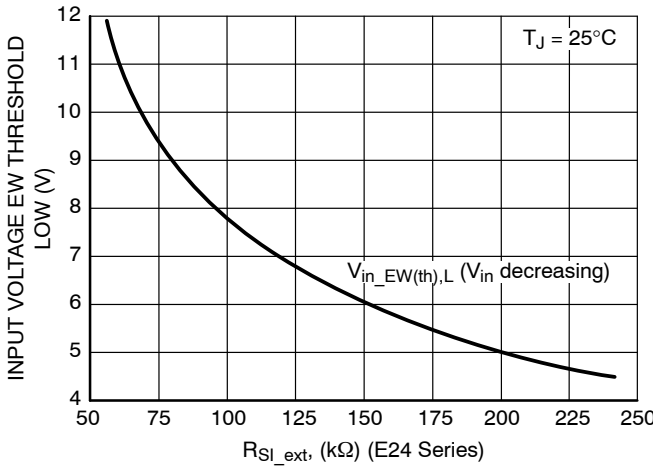
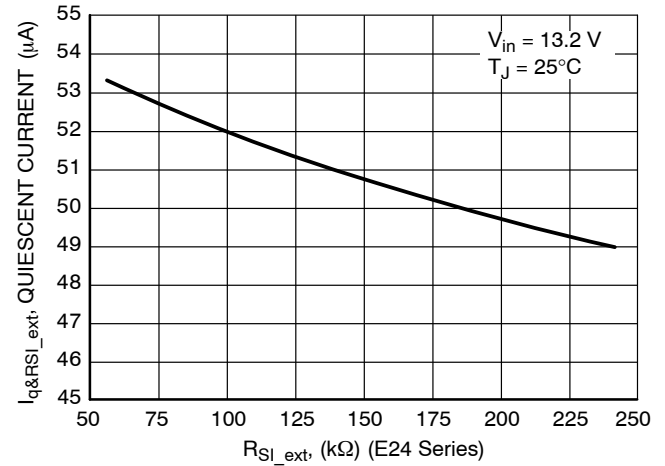

Figure 26. Input Voltage EW Threshold Low vs. R_{Sl_ext} (Calculated Using E24 Series)
Figure 27. Quiescent Current vs. R_{Sl_ext} (Including I_{RSI_ext} , Calculated Using E24 Series)
| Early Warning Input Voltage Threshold (Preset EW Threshold Values) NCV8667y2 High Low | $R_{SI1} = 480\text{ k}\Omega$, $R_{SI2} = 520\text{ k}\Omega$ (internal resistor divider values, see Figure 3) $R_{SI_ext} = 150\text{ k}\Omega$ ($\pm 1\%$, $\pm 100\text{ ppm}/^\circ\text{C}$) (external resistor value, see Figure 26) | $V_{in_EW(th)}$ | 5.67 5.30 | 6.30 5.89 | 6.92 6.47 | V |
13. I_q for Preset EW Threshold Options is measured when R_{SI_ext} is not used. For typical values of I_q vs R_{SI_ext} see Figure 27.
Practically only preset options above 4.5 V can be used without R_{SI_ext} due to minimum operating input voltage value limitation. For other preset options the trip point has to be adjusted externally using R_{SI_ext} resistor connected between input monitor SI and GND (see Figure 1). For other preset options R_{SI_ext} has to be used to achieve V_{in_EW(th)} > 5.5 V (minimum operating input voltage value). The value for R_{SI_ext} is recommended to be selected in range from 50 kΩ to 250 kΩ and the trip point can be shifted according to Figure 26. In case of R_{SI_ext} values higher than 200 kΩ two resistors in series could be used in order to eliminate leakage current of the resistor and hence ensure precision of its resistance value. The higher is R_{SI_ext} the lower is overall Quiescent Current of the application (see Figure 27). General formulas for calculation of V_{in_EW(th)Low} or R_{SI_ext}
The Sense Output is from an open drain driver with an internal 30 kΩ pull up resistor to V_{out} . Figure 26 shows the SO Monitor timing waveforms as a result of the circuit depicted in Figure 1. If the input voltage decreases the output voltage decreases as well. If the SI input low threshold voltage is crossed it causes the voltage on the SO output goes low sending a warning signal to the microprocessor that a reset signal may occur in a short period of time. T_{WARNING} is the time the microprocessor has to complete the function it is currently working on and get ready for the reset shutdown signal.